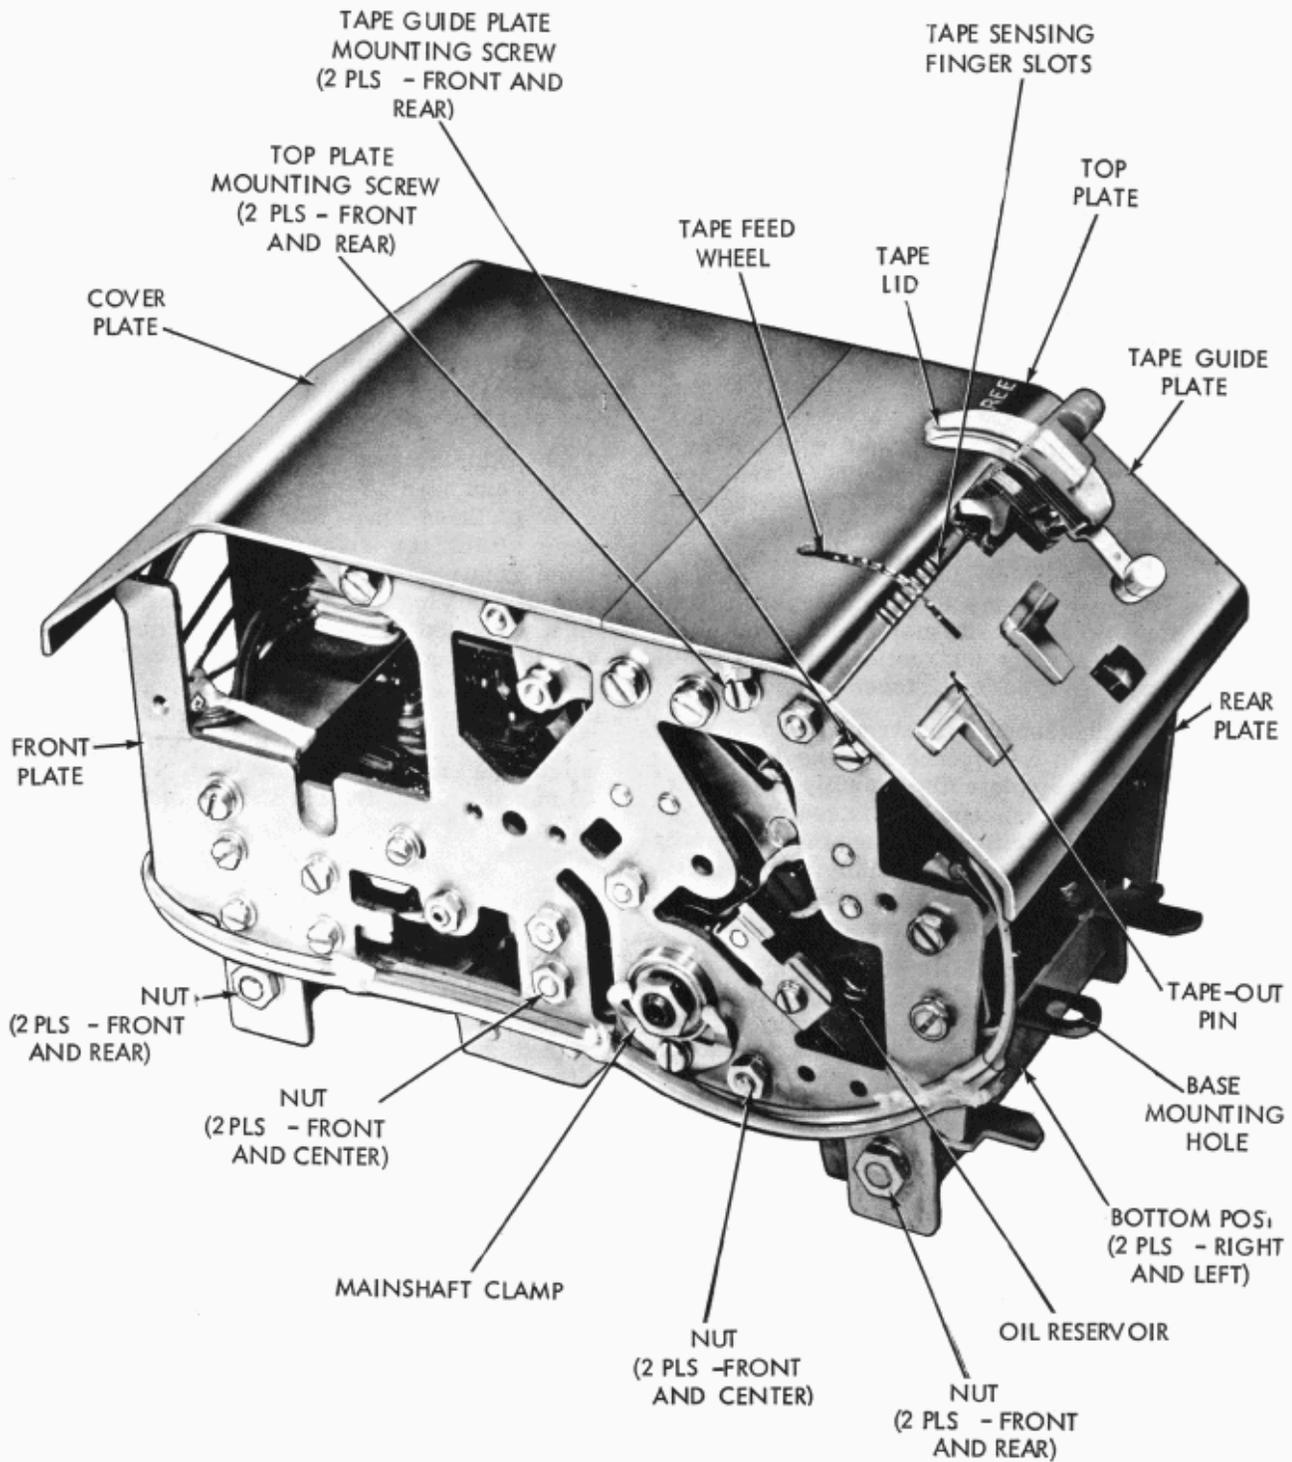

Figure 1 - Tape Reader
3. DISASSEMBLY AND REASSEMBLY (Figures 1 and 2)